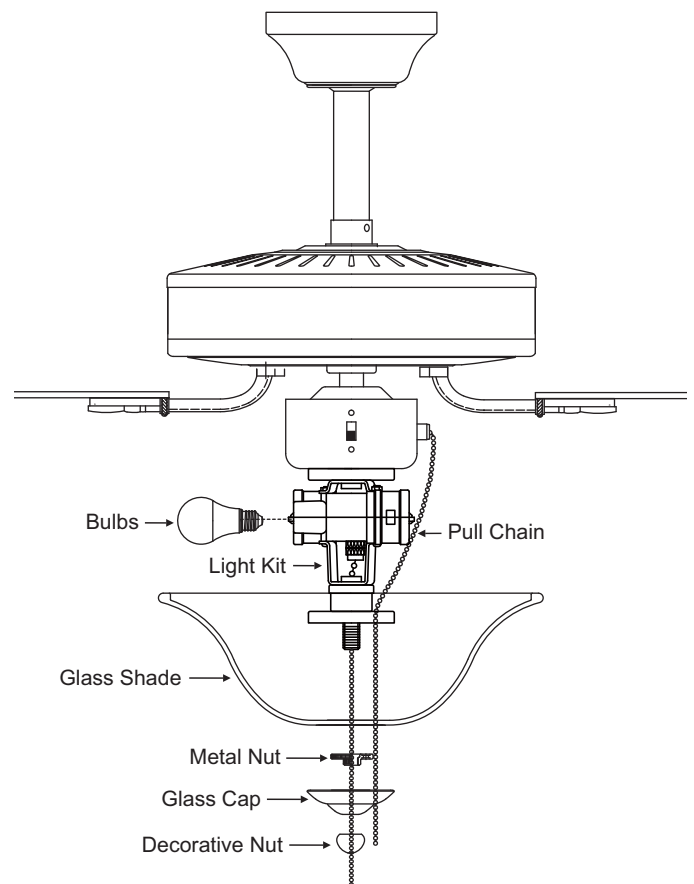

Figure 18
Step 2. While holding the light kit under your fan, snap together the wire connection plugs. (Fig. 18)
2. Remove the decorative nut, glass cap and metal nut from the light kit. Place glass shade over the light kit stem, secure with the metal nut (rubber side on the top) glass cap and decorative nut. Do not overtighten. Secure tightly the glass frame and decorative nut. (Fig. 18)
3. Insert the 2 pull chain through the eyelet in the shade and cap. (Fig. 18)